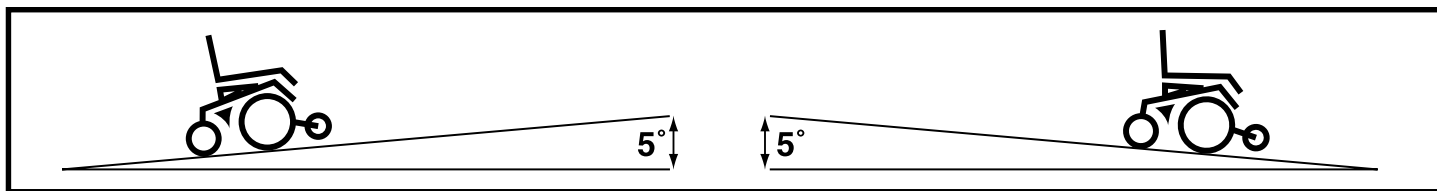

Figure 1. Maximum Safe Slope (Ascending and Descending)
**WARNING!** Even though your power chair is capable of climbing slopes greater than those illustrated in figure 1, do not, under any circumstances, exceed the incline guidelines or any other specifications presented in this manual. Doing so could cause instability in your power chair, resulting in personal injury and/or damage to your power chair.
In compliance with the Americans with Disabilities Act of 1990, all handicap public access ramps are required to have a maximum slope of 5°. Therefore, Pride recommends that the maximum slope of an incline you attempt to safely ascend or descend on your power chair does not exceed 5°. See figure 1.